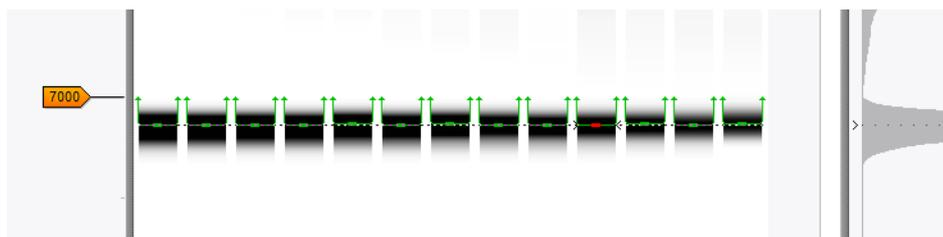

Figure 19: Correction lane 10.
46. In lane 10, **Ctrl+Click** on the correct position of the upper marker to link that peak to the reference position (see Figure 19).